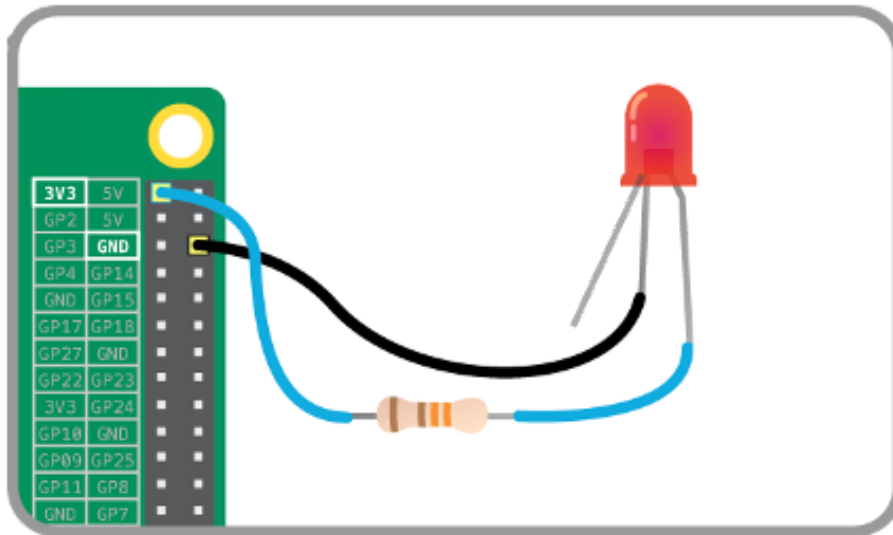

Figure 5: Lighting an LED using a Raspberry Pi.³
1. To test that the LED is working, try connecting the negative end (middle-long leg) of your LED into a ground pin (e.g. 6) and the positive end (one of the side legs) into a resistor and the resistor to the pin 1 on your Raspberry Pi which provides 3V3 power. **Make sure to use a resistor (at least 50 Ω) in series with the positive end of your LED, otherwise, you may burn it.** Once your setup is ready, the LED should light up. Since the LED is connected to a power source directly (3V3), it will stay lit up unless it is disconnected from power. Figure 5 shows an example setup without using a breadboard. **If you switch the connected positive leg, the color of the LED should change.**